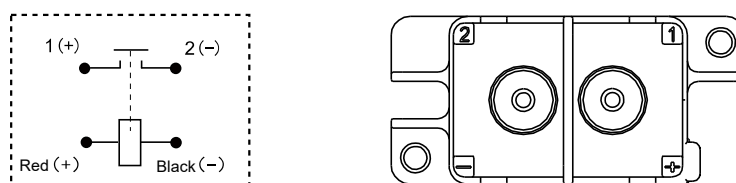

Figure 2
3.1 For polarized relay, please make correct use according to the specification and the identification on the product surface (as shown in Figure 2). The electrical characteristics promised in the specification will not be guaranteed due to the reverse polarity connection of load. See Table 1 for polarity description of each series.